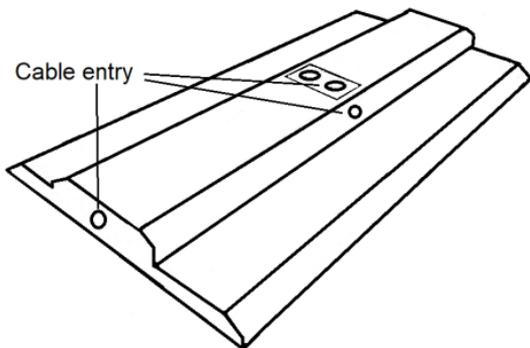

Fig. 4
- Remove one of the 20mm cable entry knockouts (see Fig. 4) and feed the mains cable into the fitting using the compression gland provided